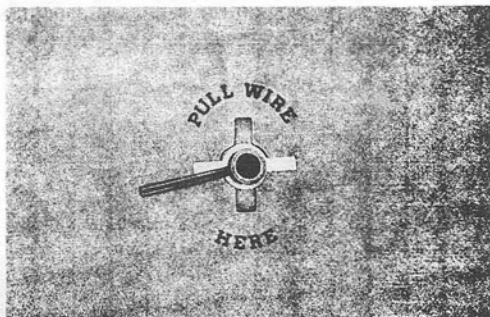

Fig. 6—Plug in Wire Dispenser Hole
- (f) After cutting drop wire, place plug in wire dispenser hole (Fig. 6).